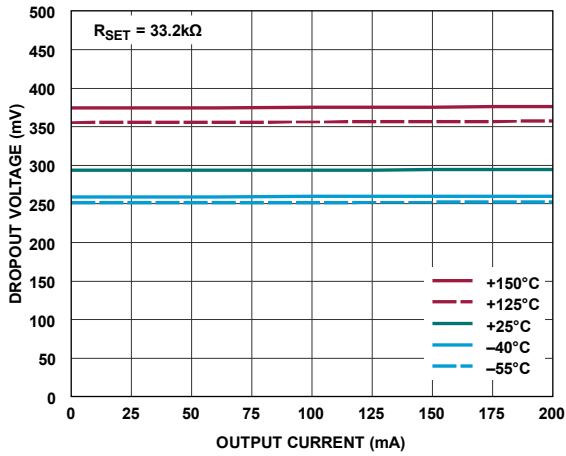

Figure 18. Dropout Voltage vs. Output Current
- ⁵ The dropout voltage is the minimum input-to-output differential voltage needed to maintain regulation at a specified output current. The dropout voltage is measured when output is 1% out of regulation. This definition results in a higher dropout voltage compared to hard dropout, which is measured when $V_{IN} = V_{OUT(NOMINAL)}$. For output voltages less than 1.7V, the dropout voltage is limited by the minimum input-voltage specification. See Figure 18 for the dropout voltage as a function of the output current and for temperature, see Figure 19, which was measured in a typical application circuit.